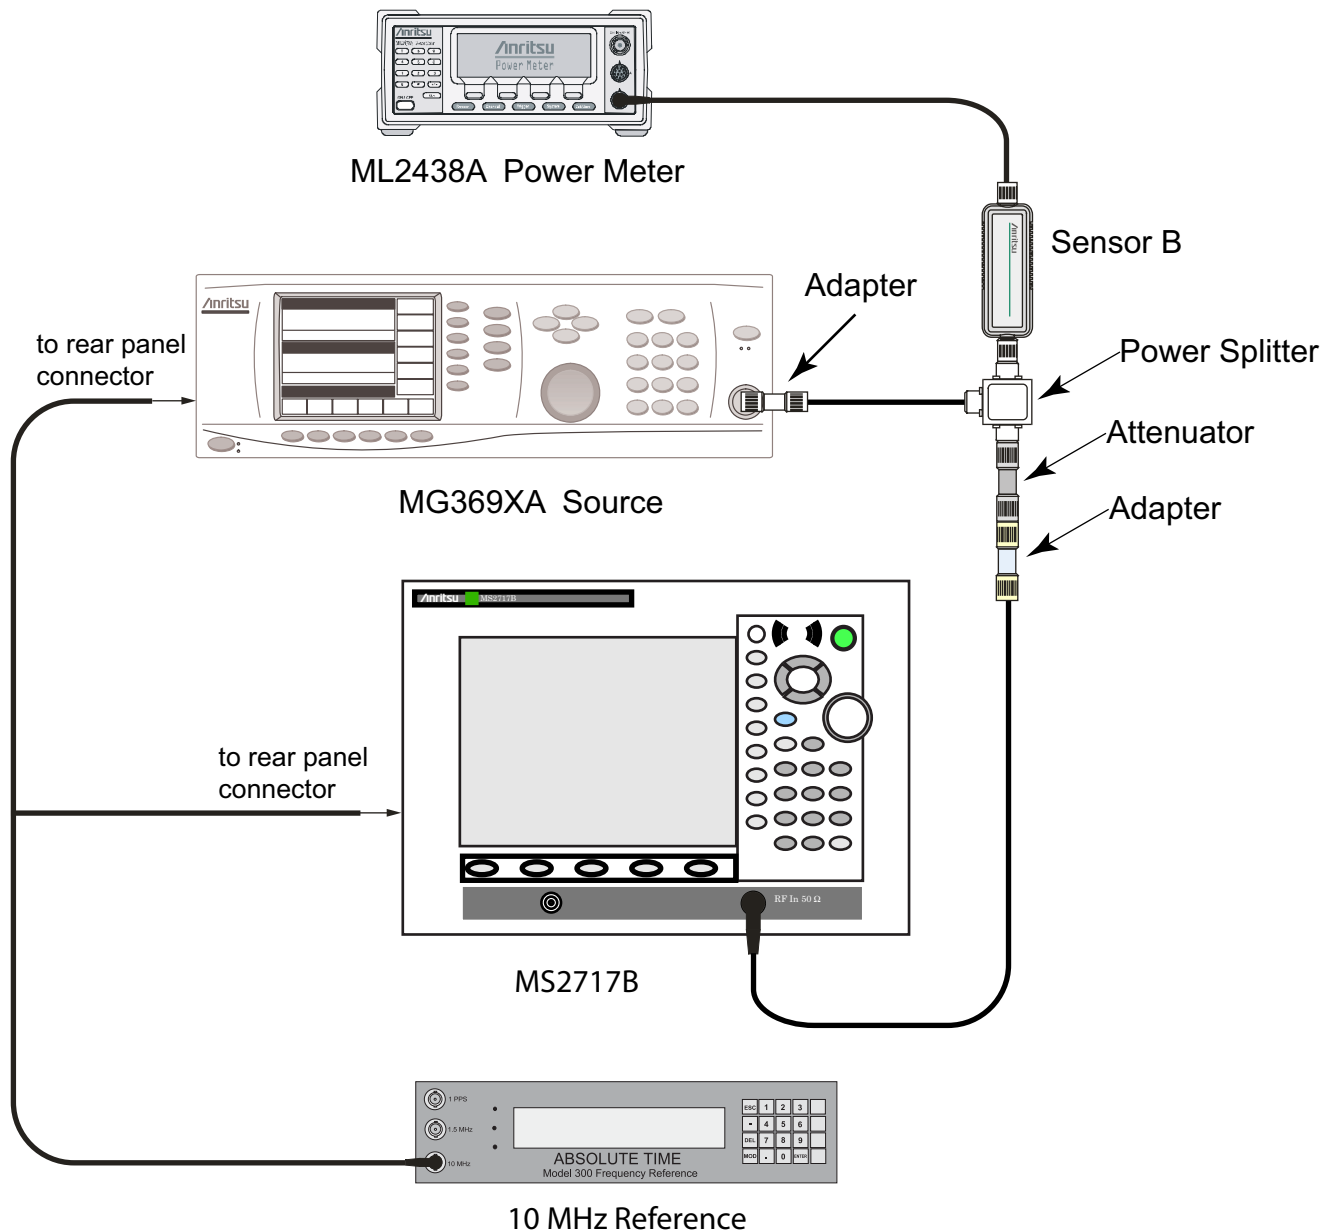

Figure 2-6. 50 MHz Amplitude Accuracy Verification Test Setup
1. Connect the equipment as shown in Figure 2-6.
1. Connect the equipment as shown in Figure 2-6 on page 2-19.